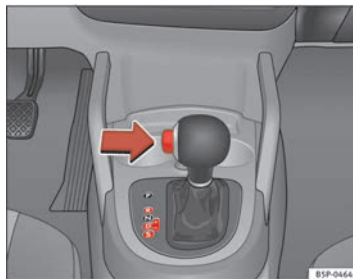

Fig. 145 Driving
- Press on the button on the selector lever knob (on the left, ⇒ page 183, fig. 145).